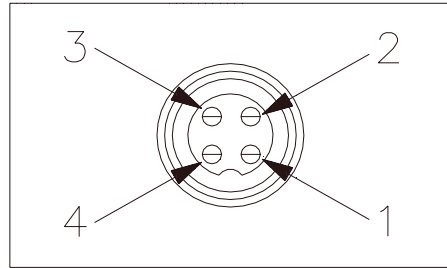

**Fig. 2** Microphone plug wiring
4. Feed the microphone cable through the housing, knurled ring and washer as shown Figure 2.
- Be sure that the housing and the knurled ring of Figure 2 are pushed back onto the microphone cable before starting to solder. If the washer is not captive to the pin receptacle body, make sure that it is placed on the threaded portion of the pin receptacle body before soldering.